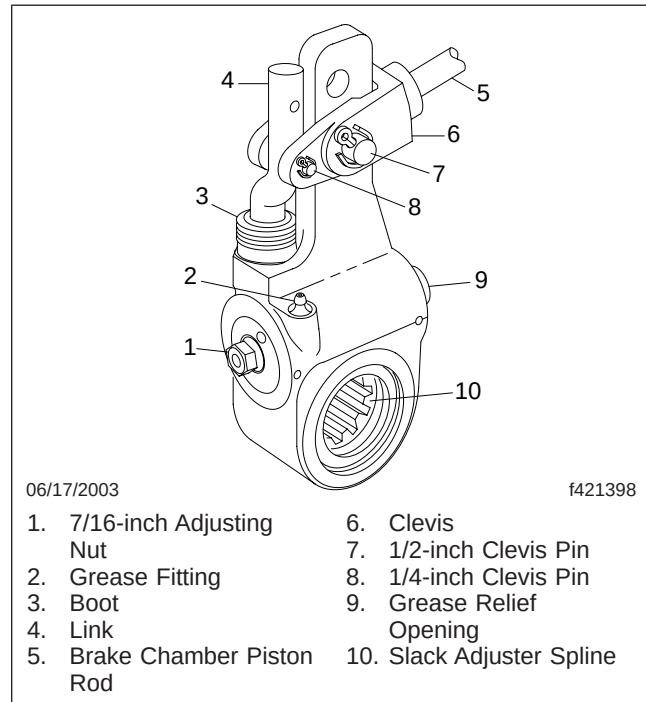
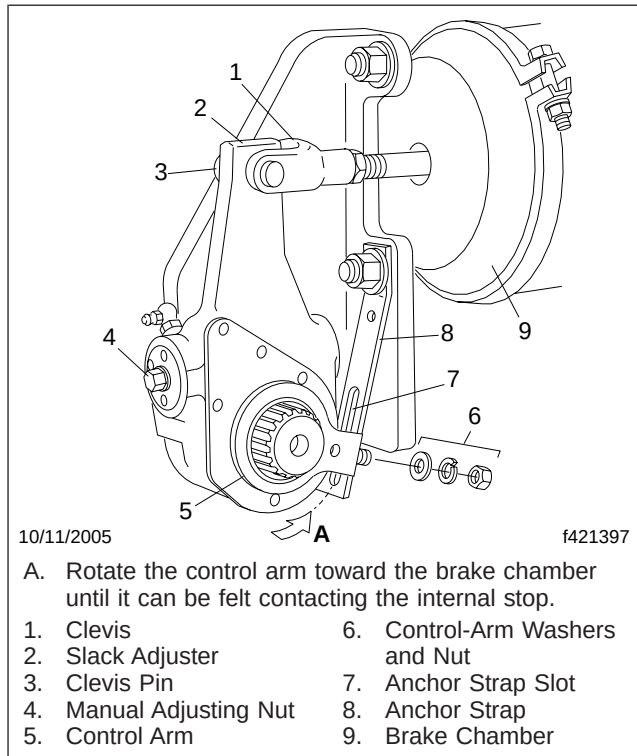
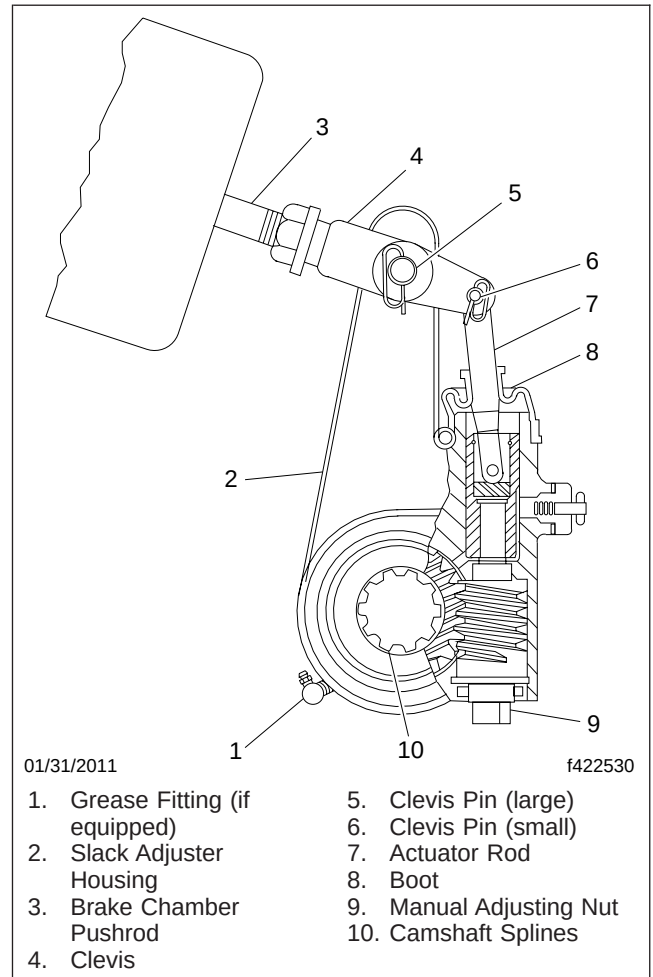

Fig. 11.1, Gunit Automatic Slack Adjuster
Fig. 11.2, Haldex Automatic Slack Adjuster
Fig. 11.3, Meritor Automatic Slack Adjuster
2. Inspect slack adjusters for signs of damage. See Fig. 11.1, Fig. 11.2, or Fig. 11.3.